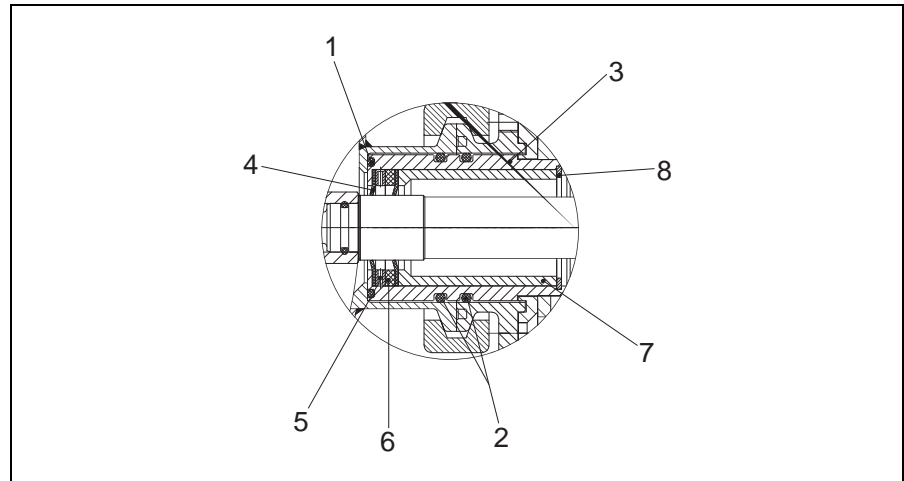

Fig. 7.3 Assembly agitator seal bushing
- ⇒ Remove the seal (1) using a screw driver. Do not damage the gearbox in the surrounding of the seal and screw bearing shaft when removing the seal.
- ⇒ Remove agitator seal bushing (2) from gear box. Do not damage the gearbox in the surrounding of the seal and agitator bearing shaft when removing the seal.
- ⇒ Disassemble agitator seal bushing (2) according the assembly (see Fig. 7.3).
2. In order to ensure that the seal is not damaged when being slid over the screw bearing shaft lubricate the seal lips (2) lightly with suitable grease.
3. Assemble agitator seal bushing according the assembly (see Fig. 7.3). Press the seals carefully into the bushing until they sit tight. The sealing lips (2) point towards the agitator hopper. If the sealing lips are pointing to the wrong direction the sealing is not guaranteed.